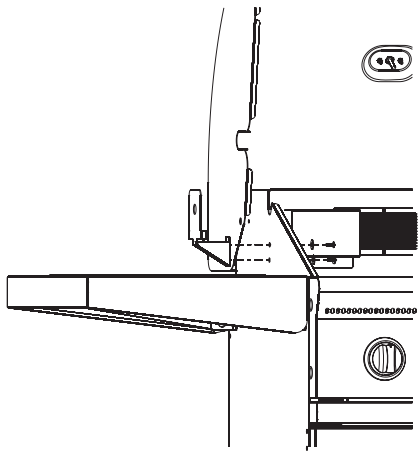

Figure 10
2. Attach the motor bracket to the left side of the grill with two (2) lock washers, and 1/4" screws. See Figure 10.